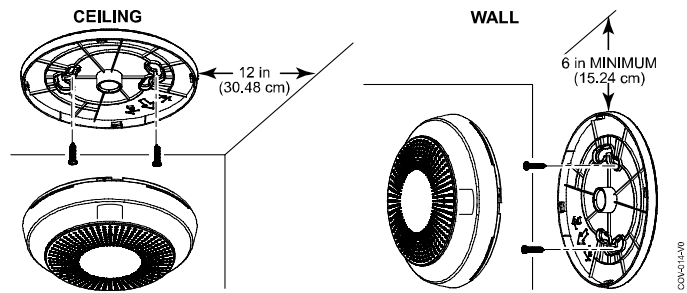

Figure 3. Mounting the 5800COV
In a wall location, the detector should be at least as high as a light switch, and at least 6 inches (15.24 cm) from the ceiling. In a ceiling location, the detector should be at least 12 inches (30.48 cm) from any wall. (Refer to Figure 3)
1. Refer to Figure 3 and install the mounting base on the ceiling or on the wall (if local ordinances permit). Use the two screws and anchors provided. Rotate the base so the screws are at the elbow of the screw slots and secure.